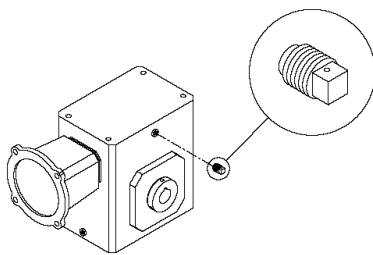

Figure 4.1 –
- CHECK FOR REDUCER VENT PLUG AND INSTALL IF NECESSARY. See *Figure 4.1*. To install, remove the solid plug and replace with vent plug.